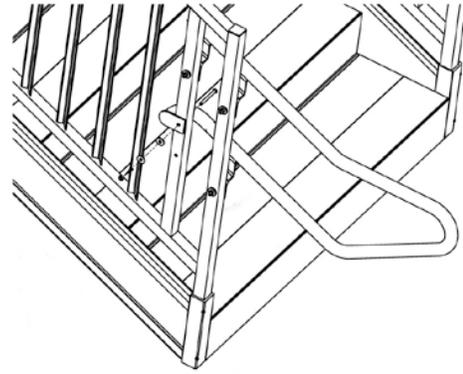

FIG. 17
- 4.2.4 Install 5/16"-18 x 2-1/2" button head bolt, two washers and nylock nut through the hole just drilled (place two washers and nylock nut on the outside of the guard) and tighten securely (FIG. 17).